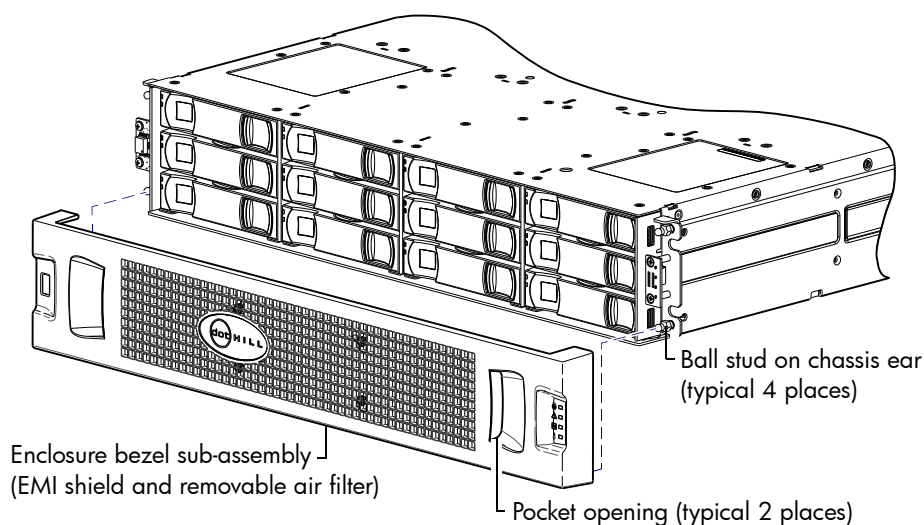

Figure 12 Partial assembly showing bezel alignment (2U12)
- See Figure 12 on page 21 for 2U12 enclosure bezel alignment.